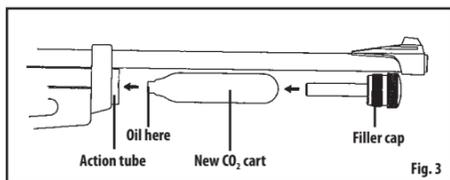

Fig. 3
9. Insert the new CO2 cartridge into the airgun with the small neck of the CO2 cartridge into the action tube first (Fig. 3).